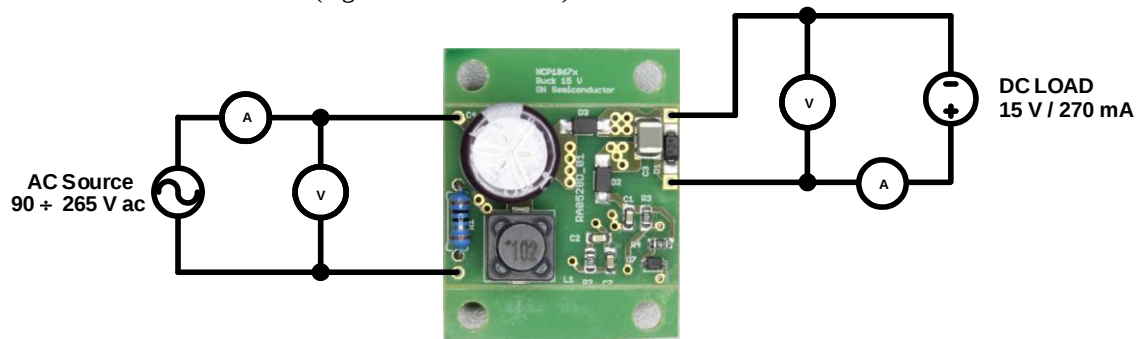

Figure 1: Test Setup for 15 V Buck Converter
1. **Connect the test setup as shown in Figure 1.**
1. Connect the test setup as shown in Figure 1.